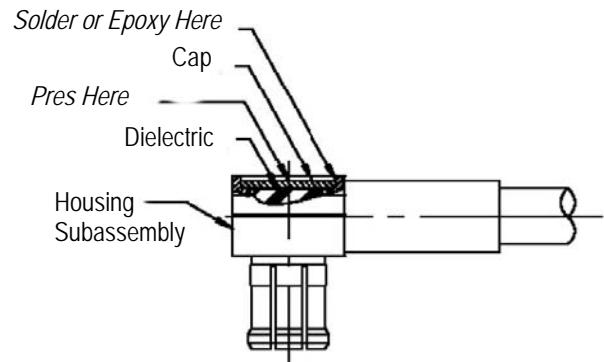

Figure 4
2.4. Sealing the Housing Opening (Figure 4)